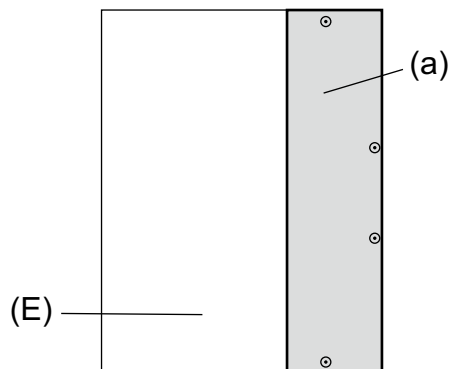

Fig.7
•To avoid dew condensation, use insulated screws in the places marked with circles in Figure 7.